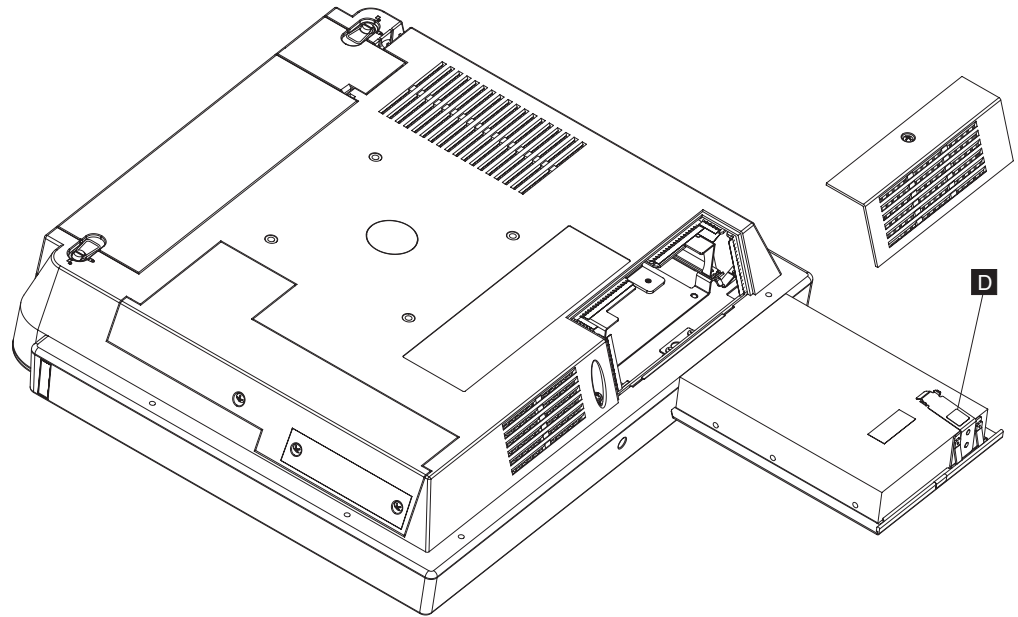

Figure 22. Removing the hard drive
3. Remove the hard disk drive assembly by pressing the drive bracket (**D** in Figure 22) downward on the latch in the area marked in blue while pulling the bracket outward.